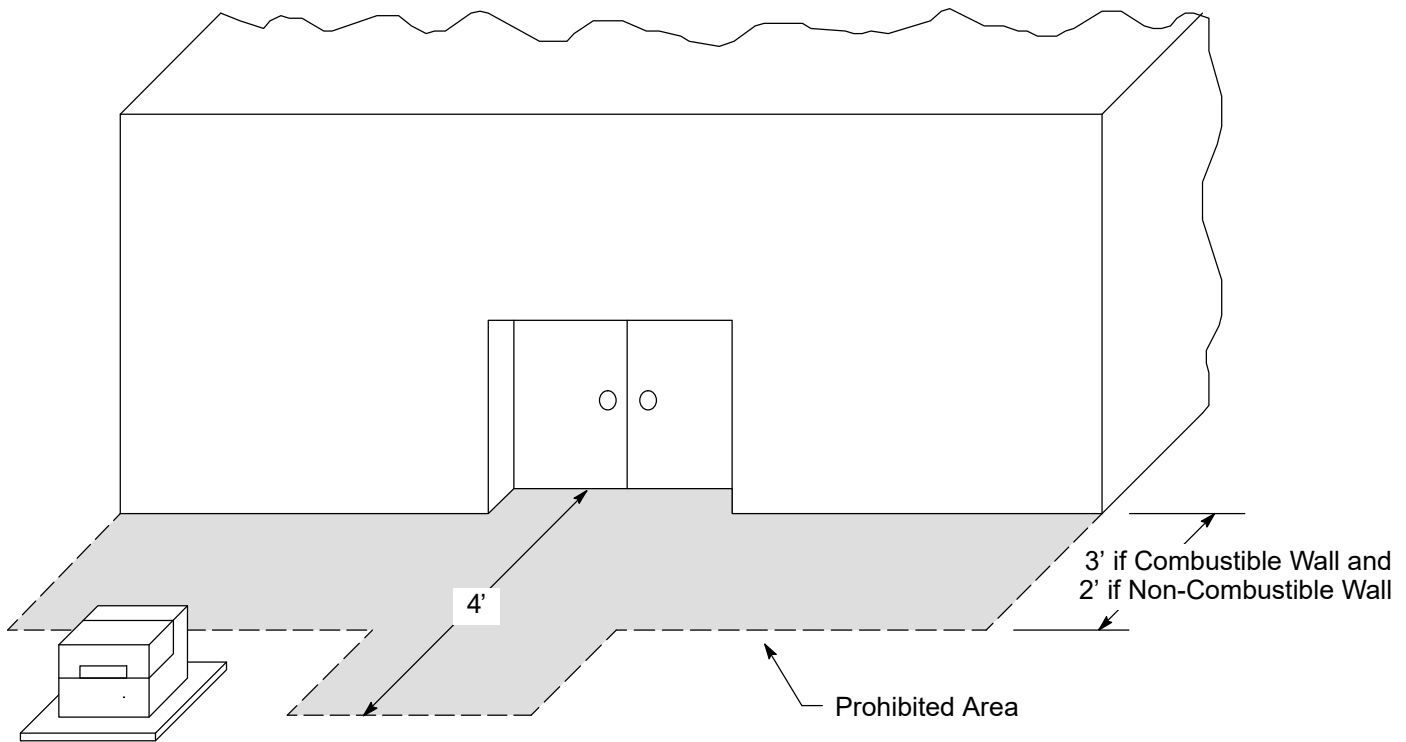

Figure 1
- A. Clearances from building surfaces (see Figure 1): Oil filled pad-mount equipment shall have the following clearances (based on [G.O. 128, Rule 34.3 \[D\]](#)):
- B. Doorway clearance (see Figure 1): Pad-mounted equipment shall not be placed where it impedes the flow of traffic through a doorway. In general, 4 feet of doorway clearance is sufficient (based on the Uniform Building Code).